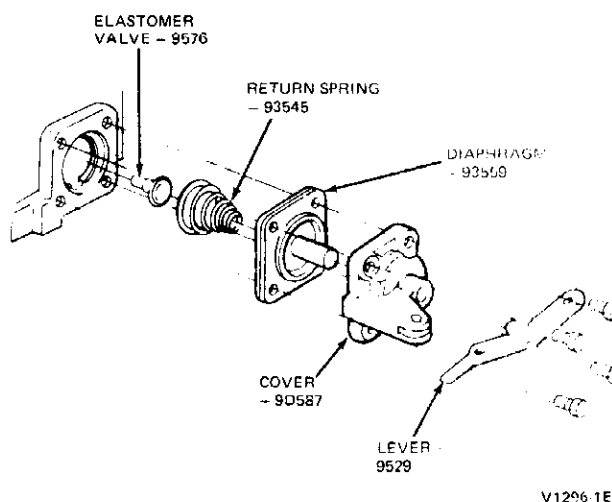

FIG. 24 Accelerator Pump Assembly
5. Remove the accelerator pump cover attaching screws. Remove the accelerator pump cover, diaphragm assembly and spring (Fig. 24).